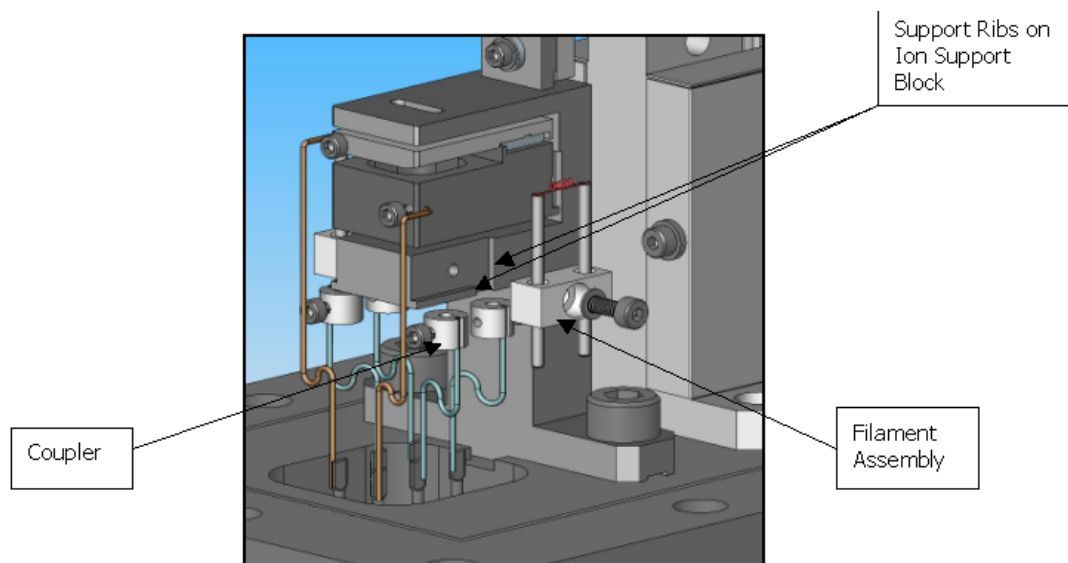
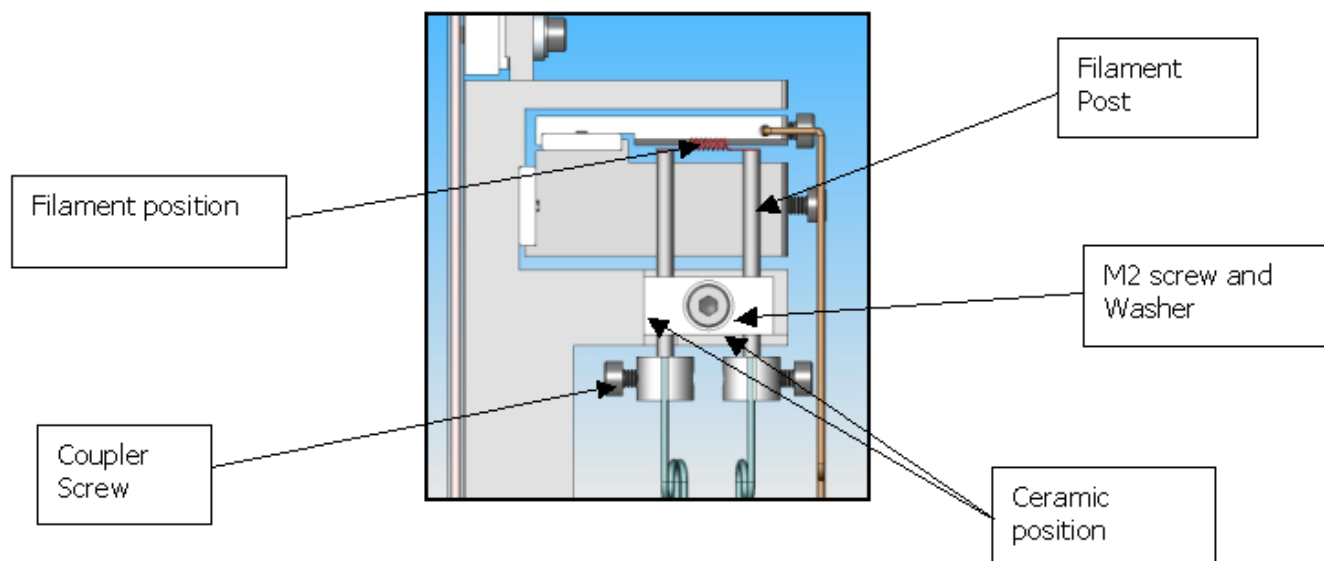
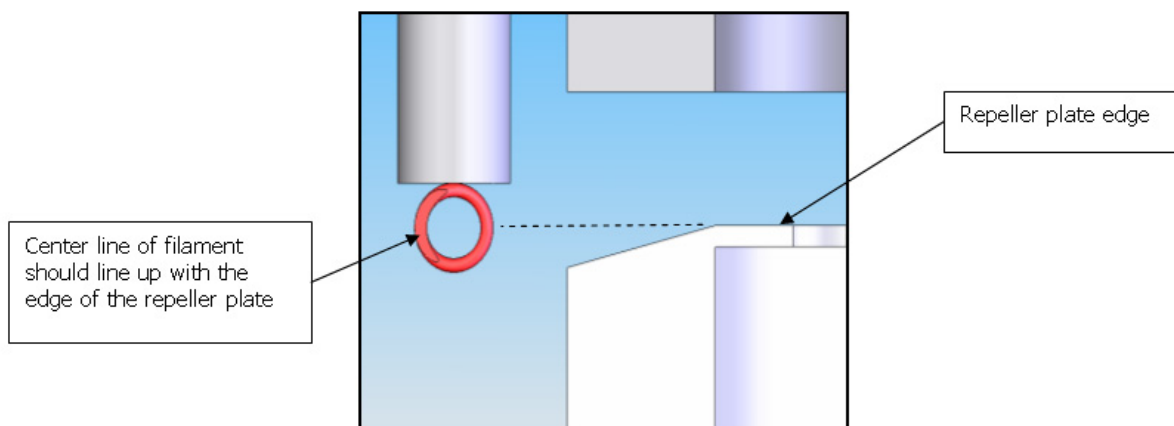

Figure 9: Coupler and Filament Assembly
Figure 10: Filament Position
Figure 11: Filament Alignment
- 13. Remove the two M4 support screws (Figure 9: Coupler and Filament Assembly).
17. Connect the collimator wire to the collimator plate using an M1.5 screw (Figure 10: Filament Position).
18. Insert the chamber and extractor wires into the ion support assembly (Figure 11: Filament Alignment).
20. Guide the ceramic against the bottom and side ribs of the ion source support block (Figure 9: Coupler and Filament Assembly and Figure 10: Filament Position). Correct positioning of filament is critical for proper spectrometer operation.
21. While holding the filament in position, insert the M2 screw and washer and tighten (Figure 10: Filament Position).
22. Tighten the coupler screws onto the filament posts (Figure 10: Filament Position).
23. Verify ceramic is tight against the bottom and right side ribs. Ensure that the filament is positioned in the slot of the ion source as shown (Figure 10: Filament Position and Figure 11: Filament Alignment).